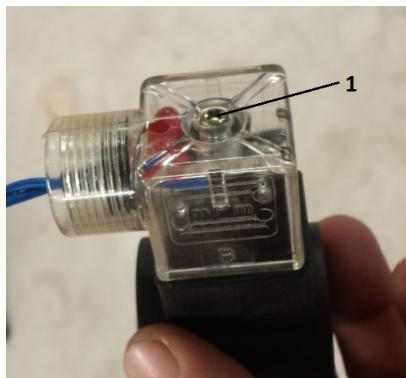

Fig.14a
13. Loosen the nut which mounts the magnet valve to the pump and remove the magnet valve. Now loosen bolt 1 (fig.14a) and remove plastic cover from the magnet valve.
16. Now mount the cover on the magnet valve using bolt 1 (fig.14a), tighten the swivel and place the magnet valve over the bolt on the pump, secure the valve using the nut.